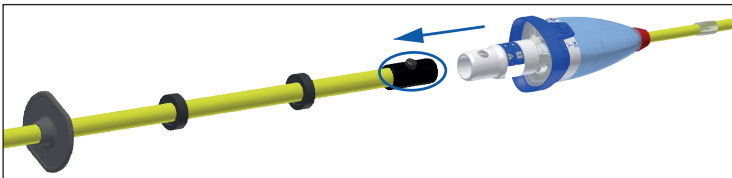

Figure 9: Assembly of the insulating rod and head section
1. Place the bayonet (4) of the handle extension onto the spindle shaft (3) of the multi-purpose insulating rod.
2. Gently guide the cross pin (2) through the recesses in the bayonet.
4. Tighten the knurled nut (1) until you establish a secure, play-free connection between the multi-purpose insulating rod and the adapter.
5. Then proceed as shown in Figure 9.